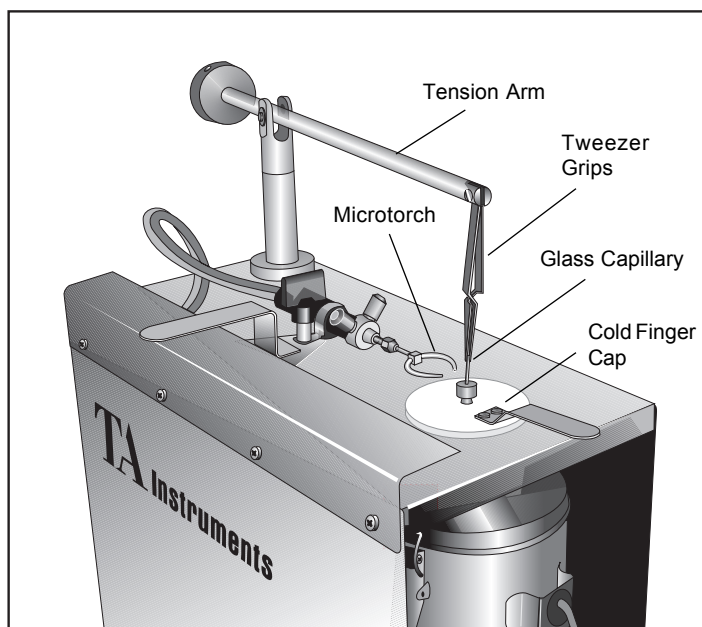

Figure 2
4. Wait five minutes for the sample and liquid nitrogen to reach a temperature equilibrium, then add a drop or two of water where the sample capillary extends above the brass cap. After the water is frozen, attach the tweezer-like grips from the tension arm, to the top of the sample capillary (see Figure 2 on the next page).